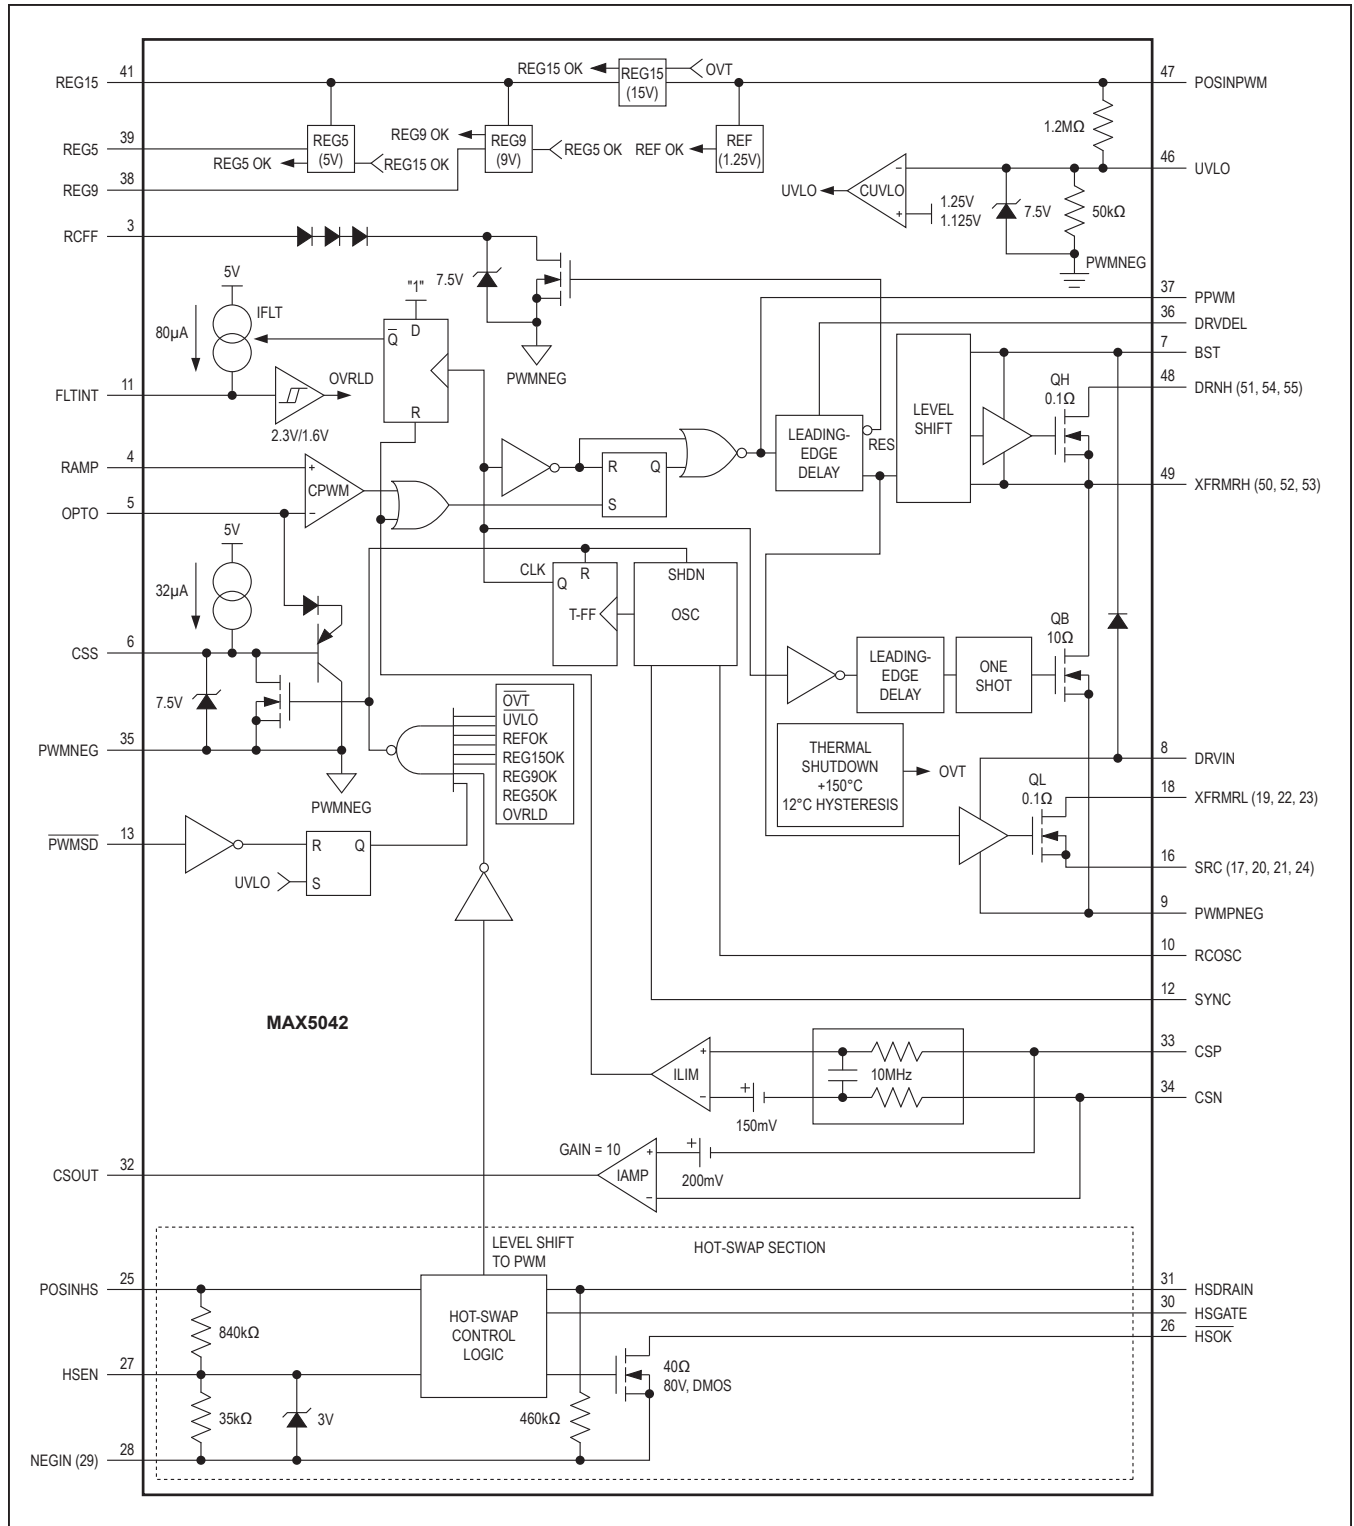

Figure 3. Block Diagram of the MAX5042 Power IC
Figures 3 and 4 show the block diagrams of the MAX5042 and MAX5043, respectively. The power-OK signals from the hot-swap section, regulators, thermal shutdown, and UVLO combine to generate the internal shutdown signal SHDN. When asserted, SHDN disables the comparators and oscillator. Deasserting SHDN releases the comparators and oscillators. The falling edge of SHDN is delayed allowing the internal signals to settle before the PWM pulses appear. During the time between the falling edge of SHDN and its delayed signal, the 10Ω internal MOSFET (QB) from XFRMRH to PWMPNEG turns on, charging the BST capacitor. After startup, this MOSFET also turns on for approximately 300ns at each half period to help charge the BST capacitor.
The ILIM comparator provides cycle-by-cycle current limiting with a typical threshold of 156mV. The fault integration circuit works by forcing an 80µA current out of FLTINT for one clock cycle every time the current-limit comparator (Figures 3 and 4, ILIM) trips. Use the following formula to calculate the approximate capacitance ( $C_{FLTINT}$ ) needed for the desired shutdown time.